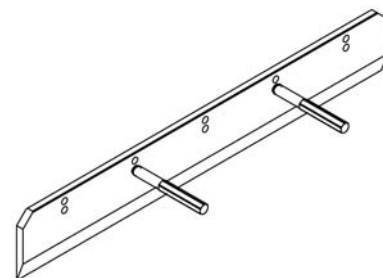

Fig. 5
- (12) Remove the blade holders from the dull blade. Screw the two blade holders into the new blade. (Fig. 5)